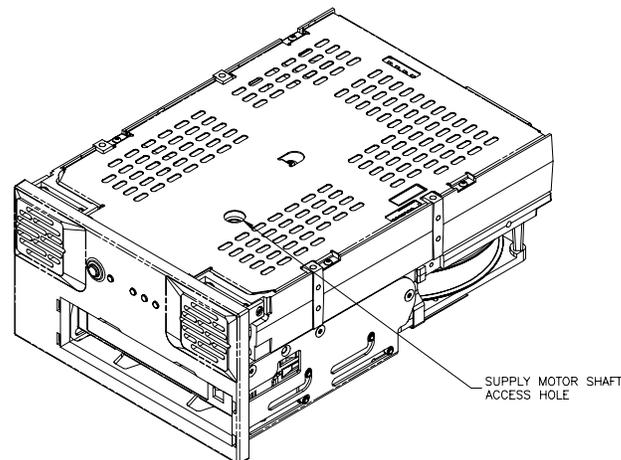

Figure 15. Diagram of underside of Viper 200 showing supply motor access hole
4. Insert the 1.5-mm hex wrench through the hole in the bottom plate shown in Figure 15. Turn the hex wrench clockwise slowly and smoothly to rewind the tape into the cartridge. This may take some time.